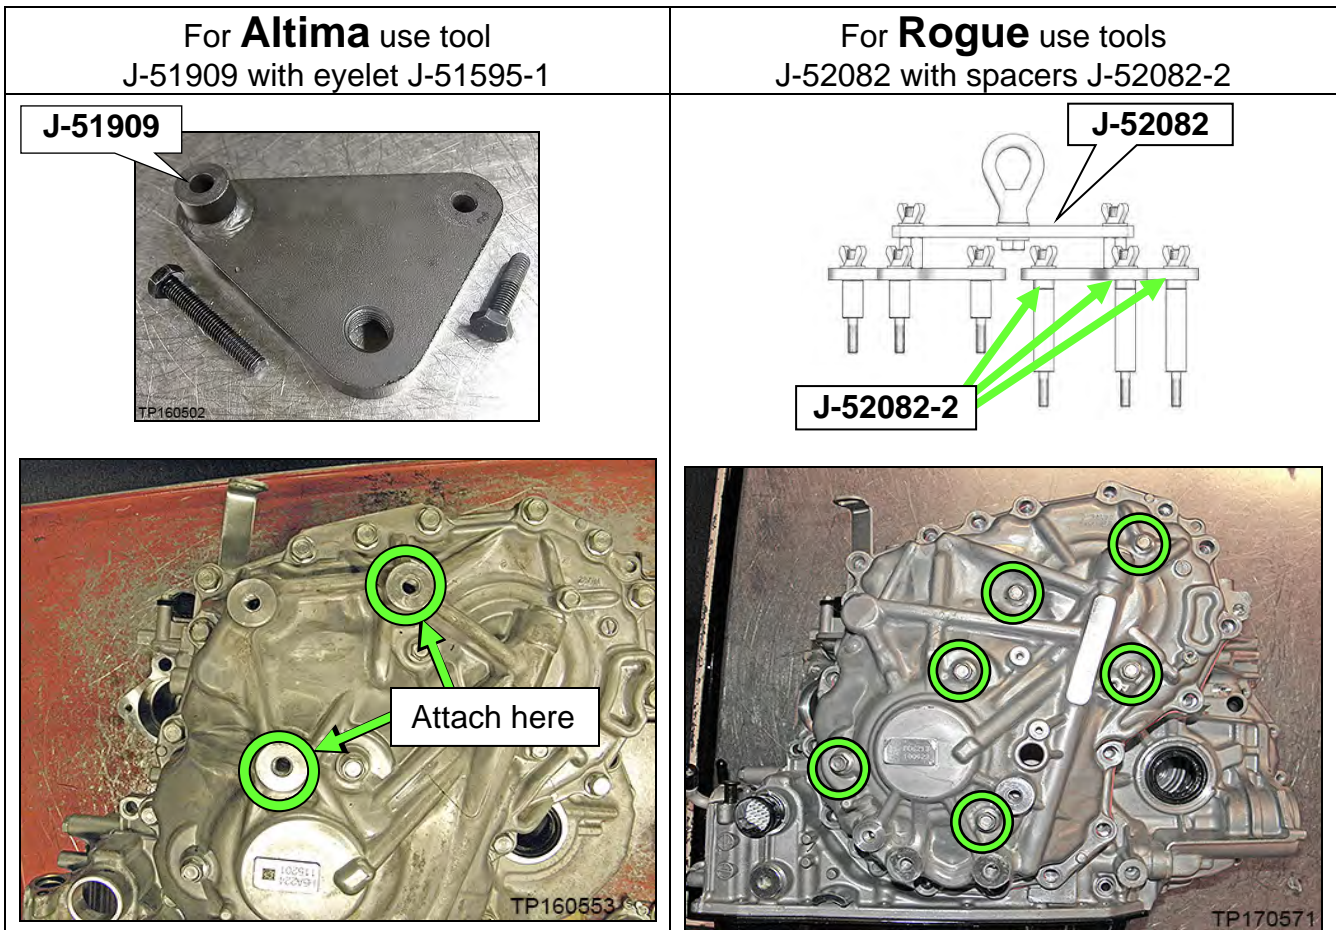

Figure 8F
6. Attach appropriate lifting fixture to the side cover (Figure 8F).